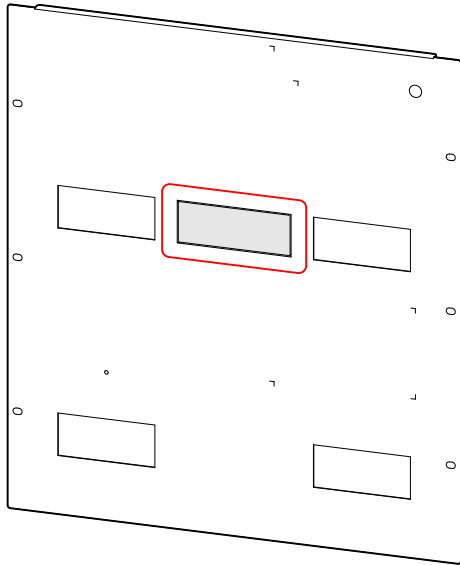

Figure3-22 The position of the knock-off hole
- Step 6 Knock off the knock-off hole of the surge protection device plate and file the disconnected position through file. The position of the knock-off hole is as shown in Figure3-22.